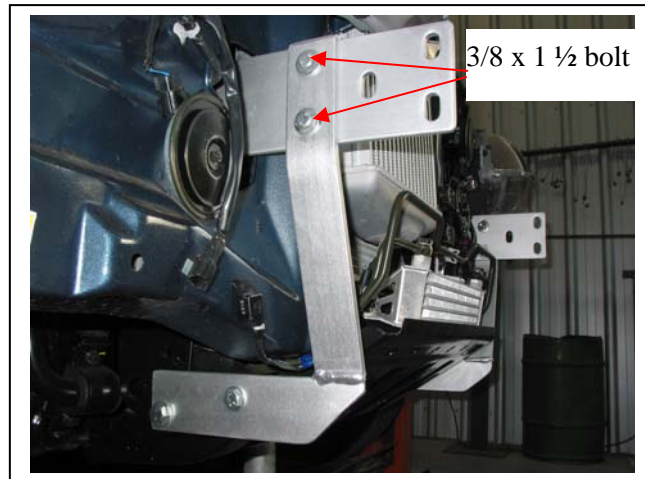

Figure 4 – Drivers side shown
8. Fit lower steel mounting brackets (supplied) to outside of 100mm upper steel mounting brackets. Use two 3/8 x 1 1/2 bolts, nuts and washers (each side) (supplied). Use one 1/2 x 1 1/2 bolt, nut and washers (each side) (supplied) for original holes in chassis tie down brackets. **FINGER TIGHTEN ALL BOLT AND NUTS ONLY. See figures 4, 5 and 6.**